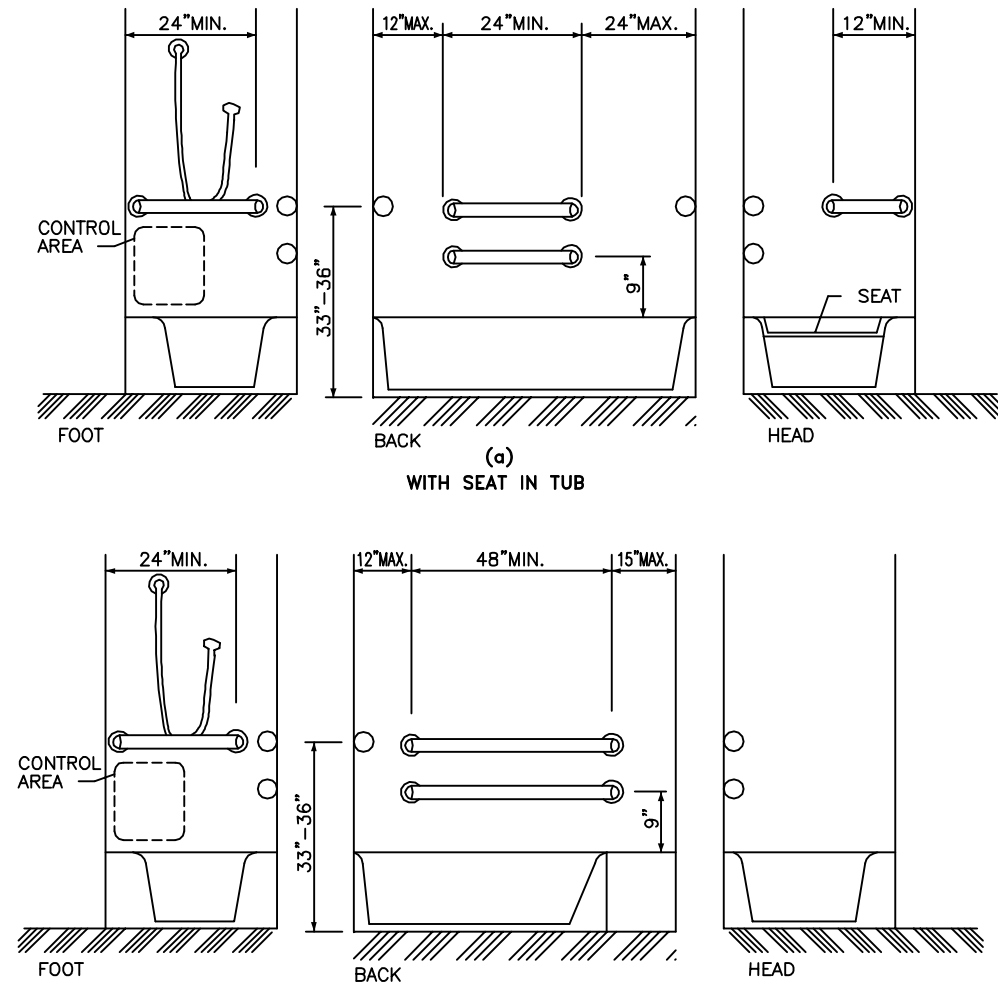

FIG. 34
- 4.20.3 SEAT.** AN IN-TUB SEAT OR A SEAT AT THE HEAD END OF THE TUB SHALL BE PROVIDED AS SHOWN IN FIG. 34. THE STRUCTURAL STRENGTH OF SEATS AND THEIR ATTACHMENTS SHALL COMPLY WITH 4.26.3. SEATS SHALL BE MOUNTED SECURELY AND SHALL NOT SLIP DURING USE.
- 4.20.4 GRAB BARS.** GRAB BARS COMPLYING WITH 4.26 SHALL BE PROVIDED AS SHOWN IN FIG. 34.
- 4.20.5 CONTROLS.** FAUCETS AND OTHER CONTROLS COMPLYING WITH 4.27.4 SHALL BE LOCATED AS SHOWN IN FIG. 34.
- 4.21.2 SIZE & CLEARANCE.** EXCEPT AS SPECIFIED IN 9.1.2, SHOWER STALL SIZE AND CLEAR FLOOR SPACE SHALL COMPLY WITH FIG. 34(a) OR (b). THE SHOWER STALL IN FIG. 34(a) SHALL BE 36" BY 36" (915mm BY 915mm). THE SHOWER STALL IN FIG. 34(b) WILL FIT INTO THE SPACE REQUIRED FOR A BATHTUB.
**4.21.4 GRAB BARS.** GRAB BARS COMPLYING WITH 4.26 SHALL BE PROVIDED AS SHOWN IN FIG. 34.
**4.21.5 CONTROLS.** FAUCETS AND OTHER CONTROLS COMPLYING WITH 4.27.4 SHALL BE LOCATED AS SHOWN IN FIG. 34. IN SHOWER STALLS 36" BY 36" (915mm BY 915mm) ALL CONTROLS, FAUCETS, AND THE SHOWER UNIT SHALL BE MOUNTED ON THE SIDE WALL OPPOSITE THE SEAT.